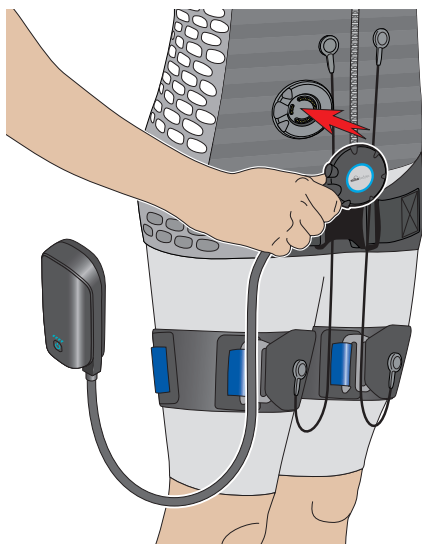

Fig. 52: Connecting
25. ► Connect the cable of the i-body® connect wireless to the magnetic connector of the i-body® (Fig. 52). See the “i-body® connect wireless” manual for further information.